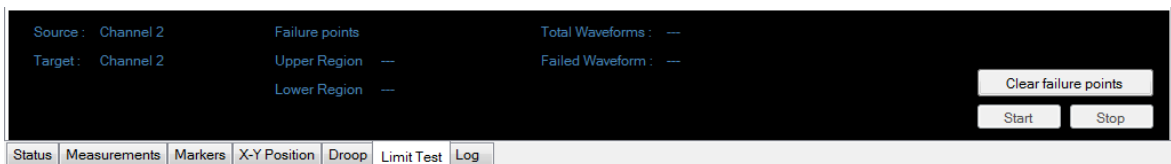

Figure 2-136 Limit test results
- 8** The limit test results are displayed in the Limit Test view as shown in Figure 2-136.